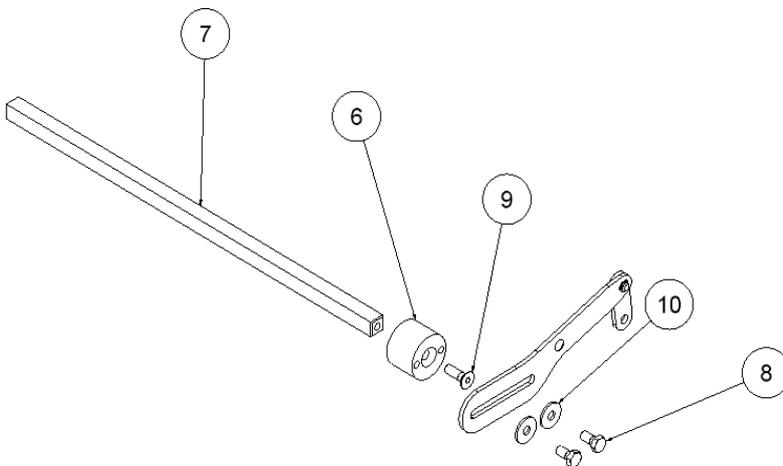

Figure.2
3. **ARMS AND HANDLES ASSEMBLY:** Each arm (7) must be joined to an arm support (6) through a M8 x 25 DIN 7991 countersink screws (9). Once together, they must be joined to a handle through two M8 x 16 DIN 933 screws (8) and two washers DIN 9021 M8 (10), making sure that the countersink of the handle is on its inner face, – Fig. 2 –.